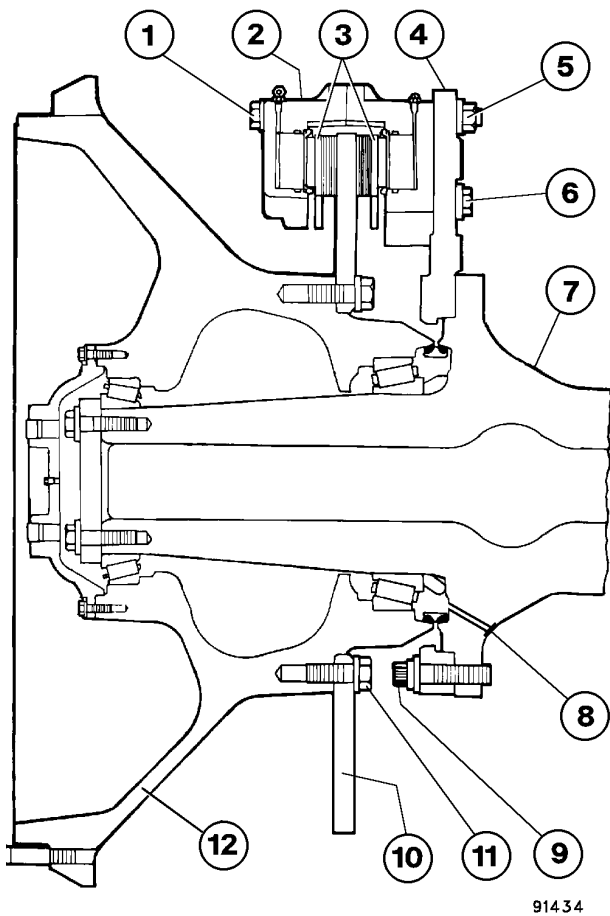

FIGURE 5-2. DISC AND CALIPER ASSEMBLY
- Remove nuts and flatwashers (5, Figure 5-2) and remove outboard half of brake caliper. Remove capscrews and flatwashers (6) securing inboard half of caliper to the brake adapter (4). Remove Inboard caliper.
- Install the inboard half of caliper assembly (2, Figure 5-2) to the top leg of the brake caliper support and secure caliper assembly with four capscrews (6). Tighten capscrews to standard torque.
- Install the upper outboard half of brake caliper assembly (2) to the top leg of the brake caliper adapter (4) and secure with six capscrews, washers and nuts (1 & 5). The pistons in both caliper assemblies will collapse against the brake disc. Tighten capscrews to standard torque.